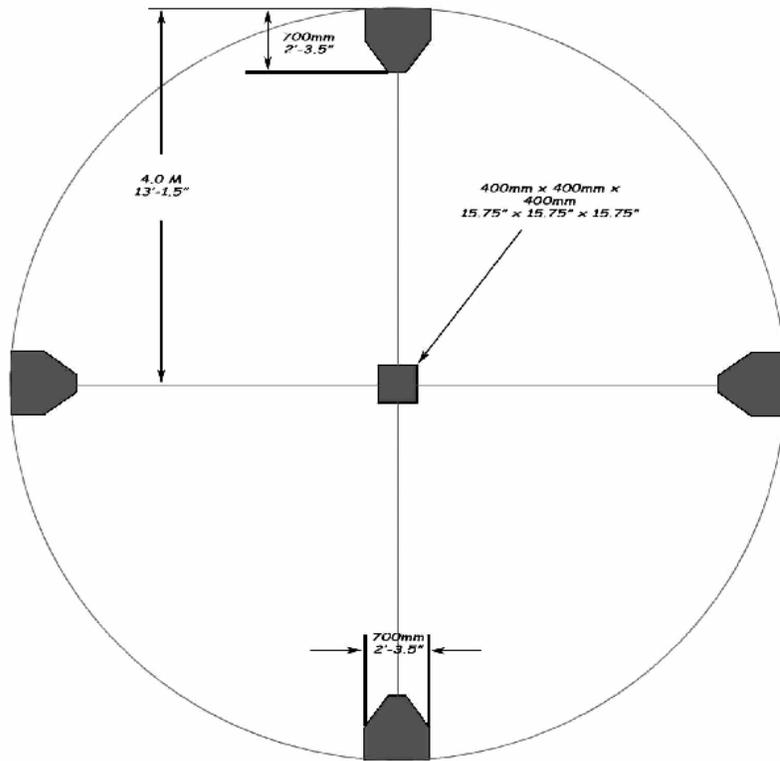

Figure 1
3. Choose a site to install the turbine. It is important to ensure that there are no overhead power lines or other obstructions. Make sure that the turbine is located no more than 30 meters (approx. 100 feet) from the charge controller and battery system. This is to maximise the performance of your turbine system. Refer to figure 1 as a guide to the minimum space required for installation of guy lines and anchor points.
2. Dig four triangular holes (each side is 70cm or 27 inches) with a depth of 70 cm (27 inches) symmetrical 4.0 meters (13 feet) from the central hole in four directions. See figure 1 for proper layout.